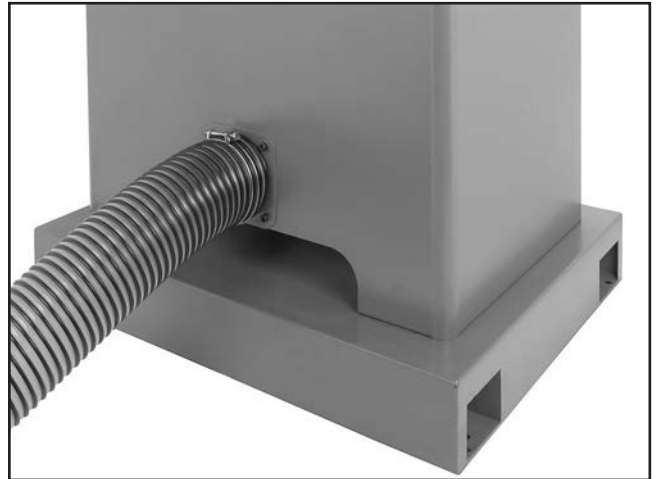

Figure 11. Dust collection hose attached to dust port.
3. Attach the dust collection hose to the dust port, as shown in Figure 11.